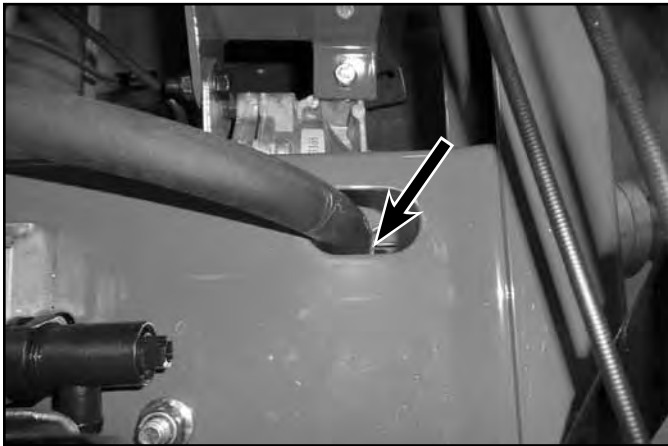

Fig. 064
10. If equipped, disconnect and plug the hydro reservoir hoses at the hydro fitting. Be sure to capture and dispose of fluid and shop towels properly (Fig. 064). (MX only)